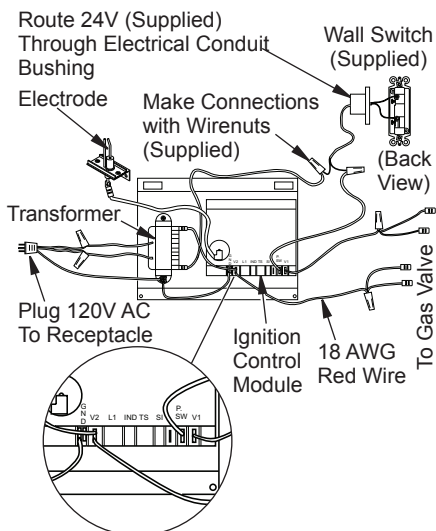
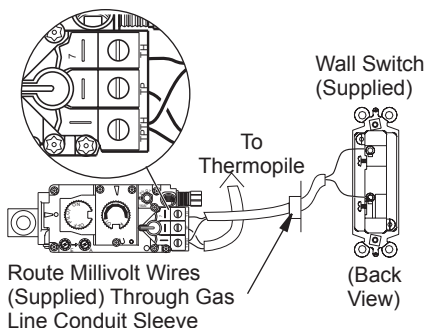

Figure 34 - Wall Switch Wiring Diagram, Electronic Units
Figure 35 - Wall Switch Wiring Diagram, Millivolt Units
Since the (V)DVF36TPNEA/TSTEA series uses a 24 VAC current supplied from a transformer mounted on the ignition module and is prewired for easy connection to a wall switch (see Figure 34). The (V)DVF36TPNA/TSTA models use a self generated millivolt current that allows you to activate the gas control valve directly without the use of normal household electricity (see Figure 35). Both versions are supplied with a wall switch kit for ready connection and mounting.
2. If a wall switch was installed, it must be removed from ignition control circuit for remote to work properly. Remove wire nuts from switch connection at ignition control module. Using wire nut, connect transformer (blue) wire to remaining wire connected to control terminal marked P.S.W (see Figure 34, page 21).